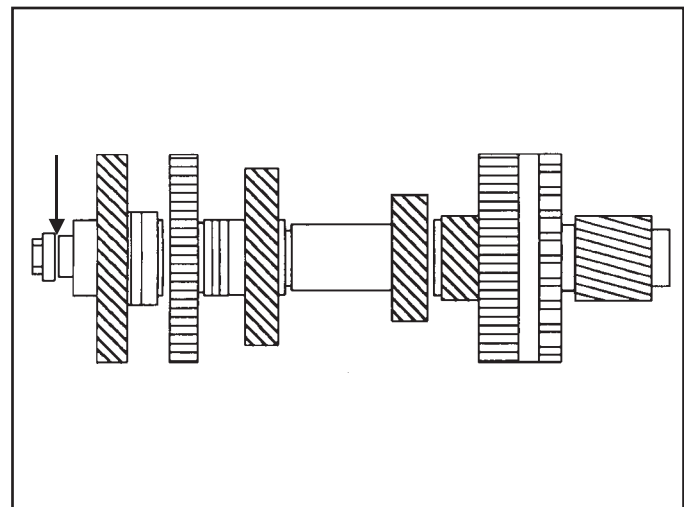

Figure 144
30. Measure clearance between the 1st driven gear and 1st driven gear thrust washer (See Figure 144).